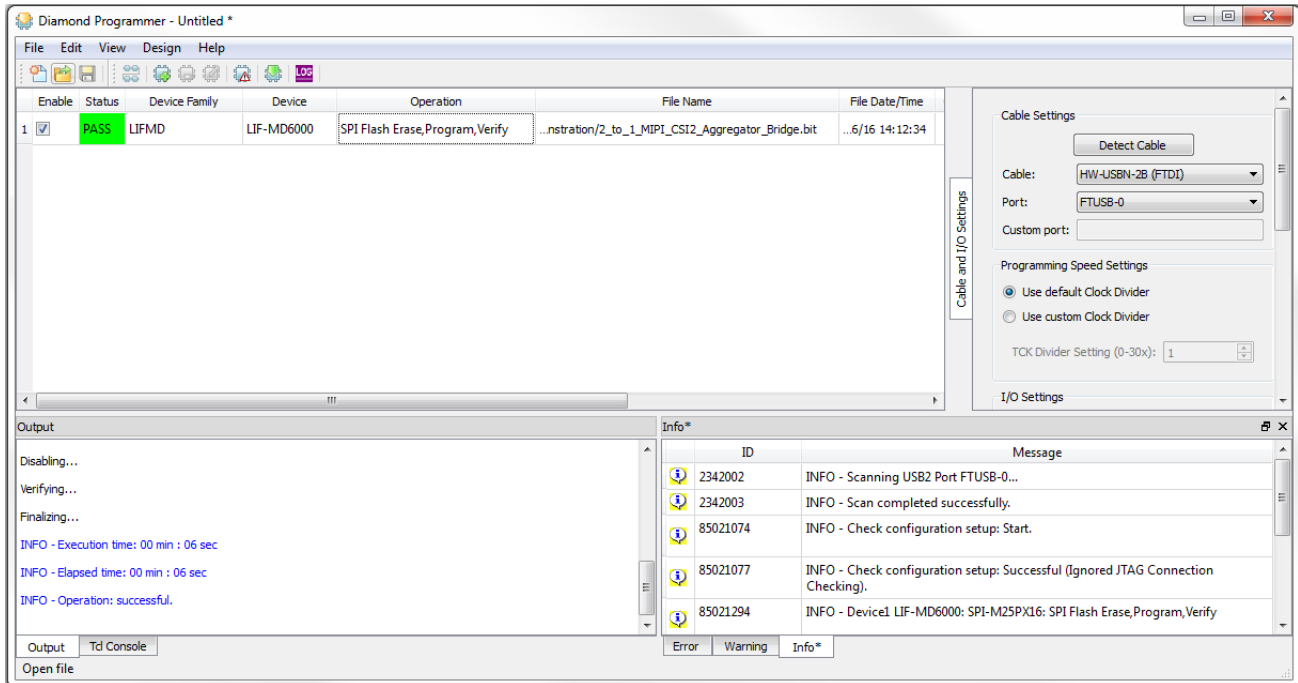

Figure 4.9. Diamond Programmer Main Interface
4. The Diamond Programmer automatically scans the device on the board, and the window shown in Figure 4.9 appears.